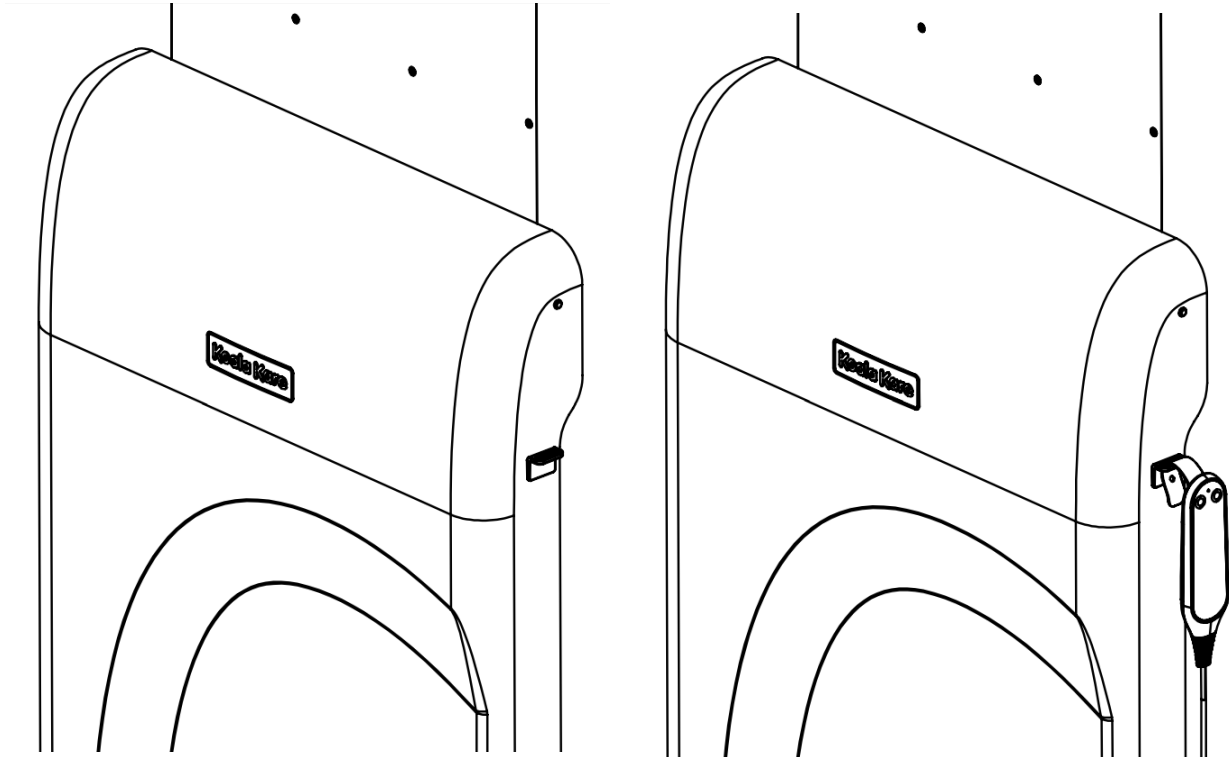

Fig 12.4d
- This should be fit high up on the right side of the cover, as shown in Fig 12.4d.